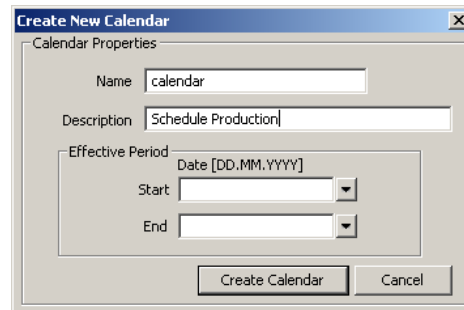

Figure 25: Create New Calendar dialog box.
3. In the Create New Calendar dialog box (as shown in Figure 25) enter Name and Description of the calendar. Note, that a BACnet calendar does not have the **Effective Period** settings.